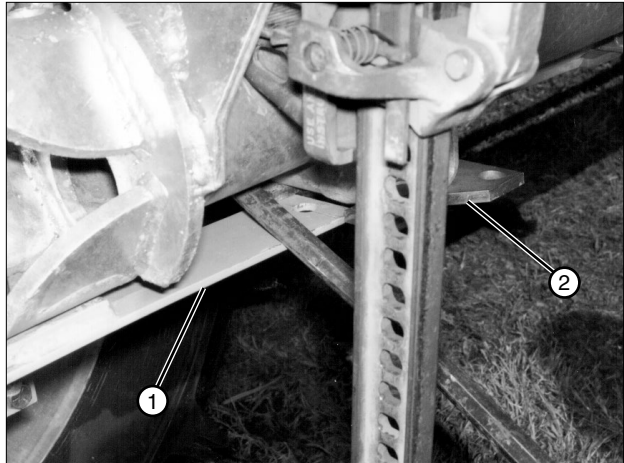

Figure 26-1 1. Steering Arm
- Using a pry bar, push down on the gearbox mount steering arm to release it from the latch plate while pushing the tire toward the tow position until steering arm is out of latch plate. See figure 26-1.